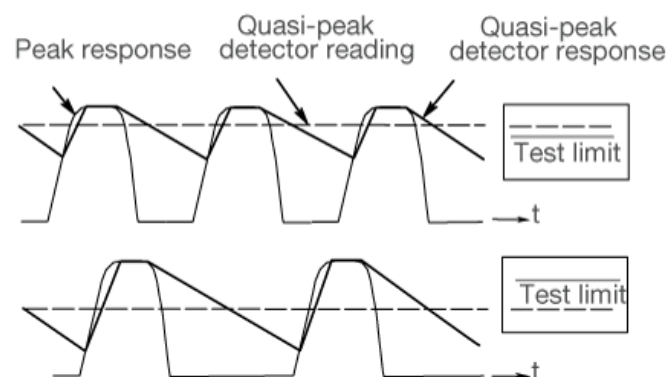

Figure D-2. Quasi-peak detector response diagram.
Most radiated and conducted limits are based on quasi-peak detection mode. Quasipeak detectors weigh signals according to their repetition rate, which is a way of measuring their annoyance factor. As the repetition rate increases, the quasi-peak detector does not have time to discharge as much, resulting in a higher voltage output (See Figure D-2). For continuous wave (CW) signals, the peak and the quasi-peak are the same.